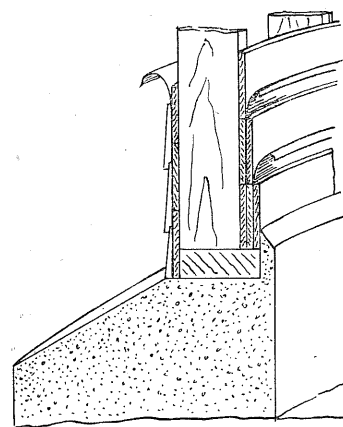

FIG. 3.—ORIGINAL KING SILO
22. How is the King silo built? It originally consisted of a sill made by cutting 2 x 4's into two-foot lengths and placing them on the foundation as a double thickness. The sill may be made also by cutting them out of 6 or 8-inch plank, sawing them to the curvature of the silo. Studding made of 2 x 4" are placed one foot apart on this circular sill. The lining on the inside, as shown in Figure 3, consists of three layers of $\frac{3}{8}$ " boards bent and nailed to the studding with a layer of water-proof building paper between each layer. On the outside is nailed $\frac{3}{8}$ " sheeting, a layer of paper, and then any form of siding which can be bent to a circle. This type of silo can be a homemade product.